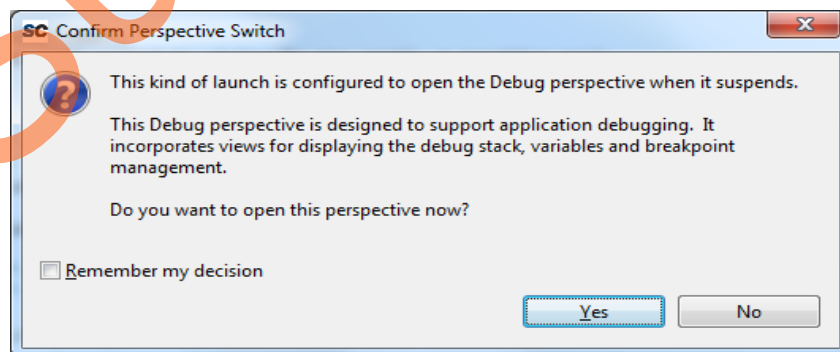

Figure 43 • Confirm Perspective Switch
6. On the **Confirm Perspective Switch** window, click **Yes** as shown in Figure 43.